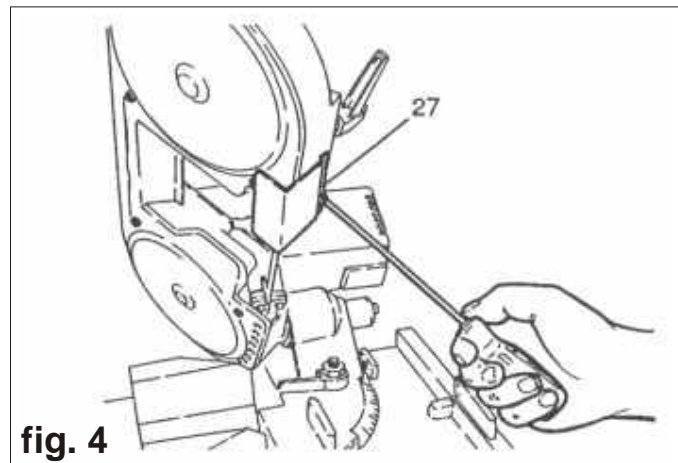

fig. 4
- Remove the corner plate (27) from the sliding blade guide. (fig. 4)